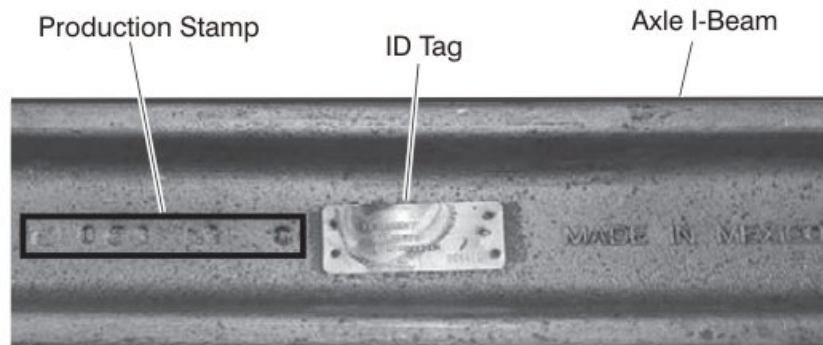

Figure 1
1. Find and record the heat code stamped on the axle and the axle serial number located on the identification tag at the front/center of the steer axle. See Figures 1, 2, and 3.